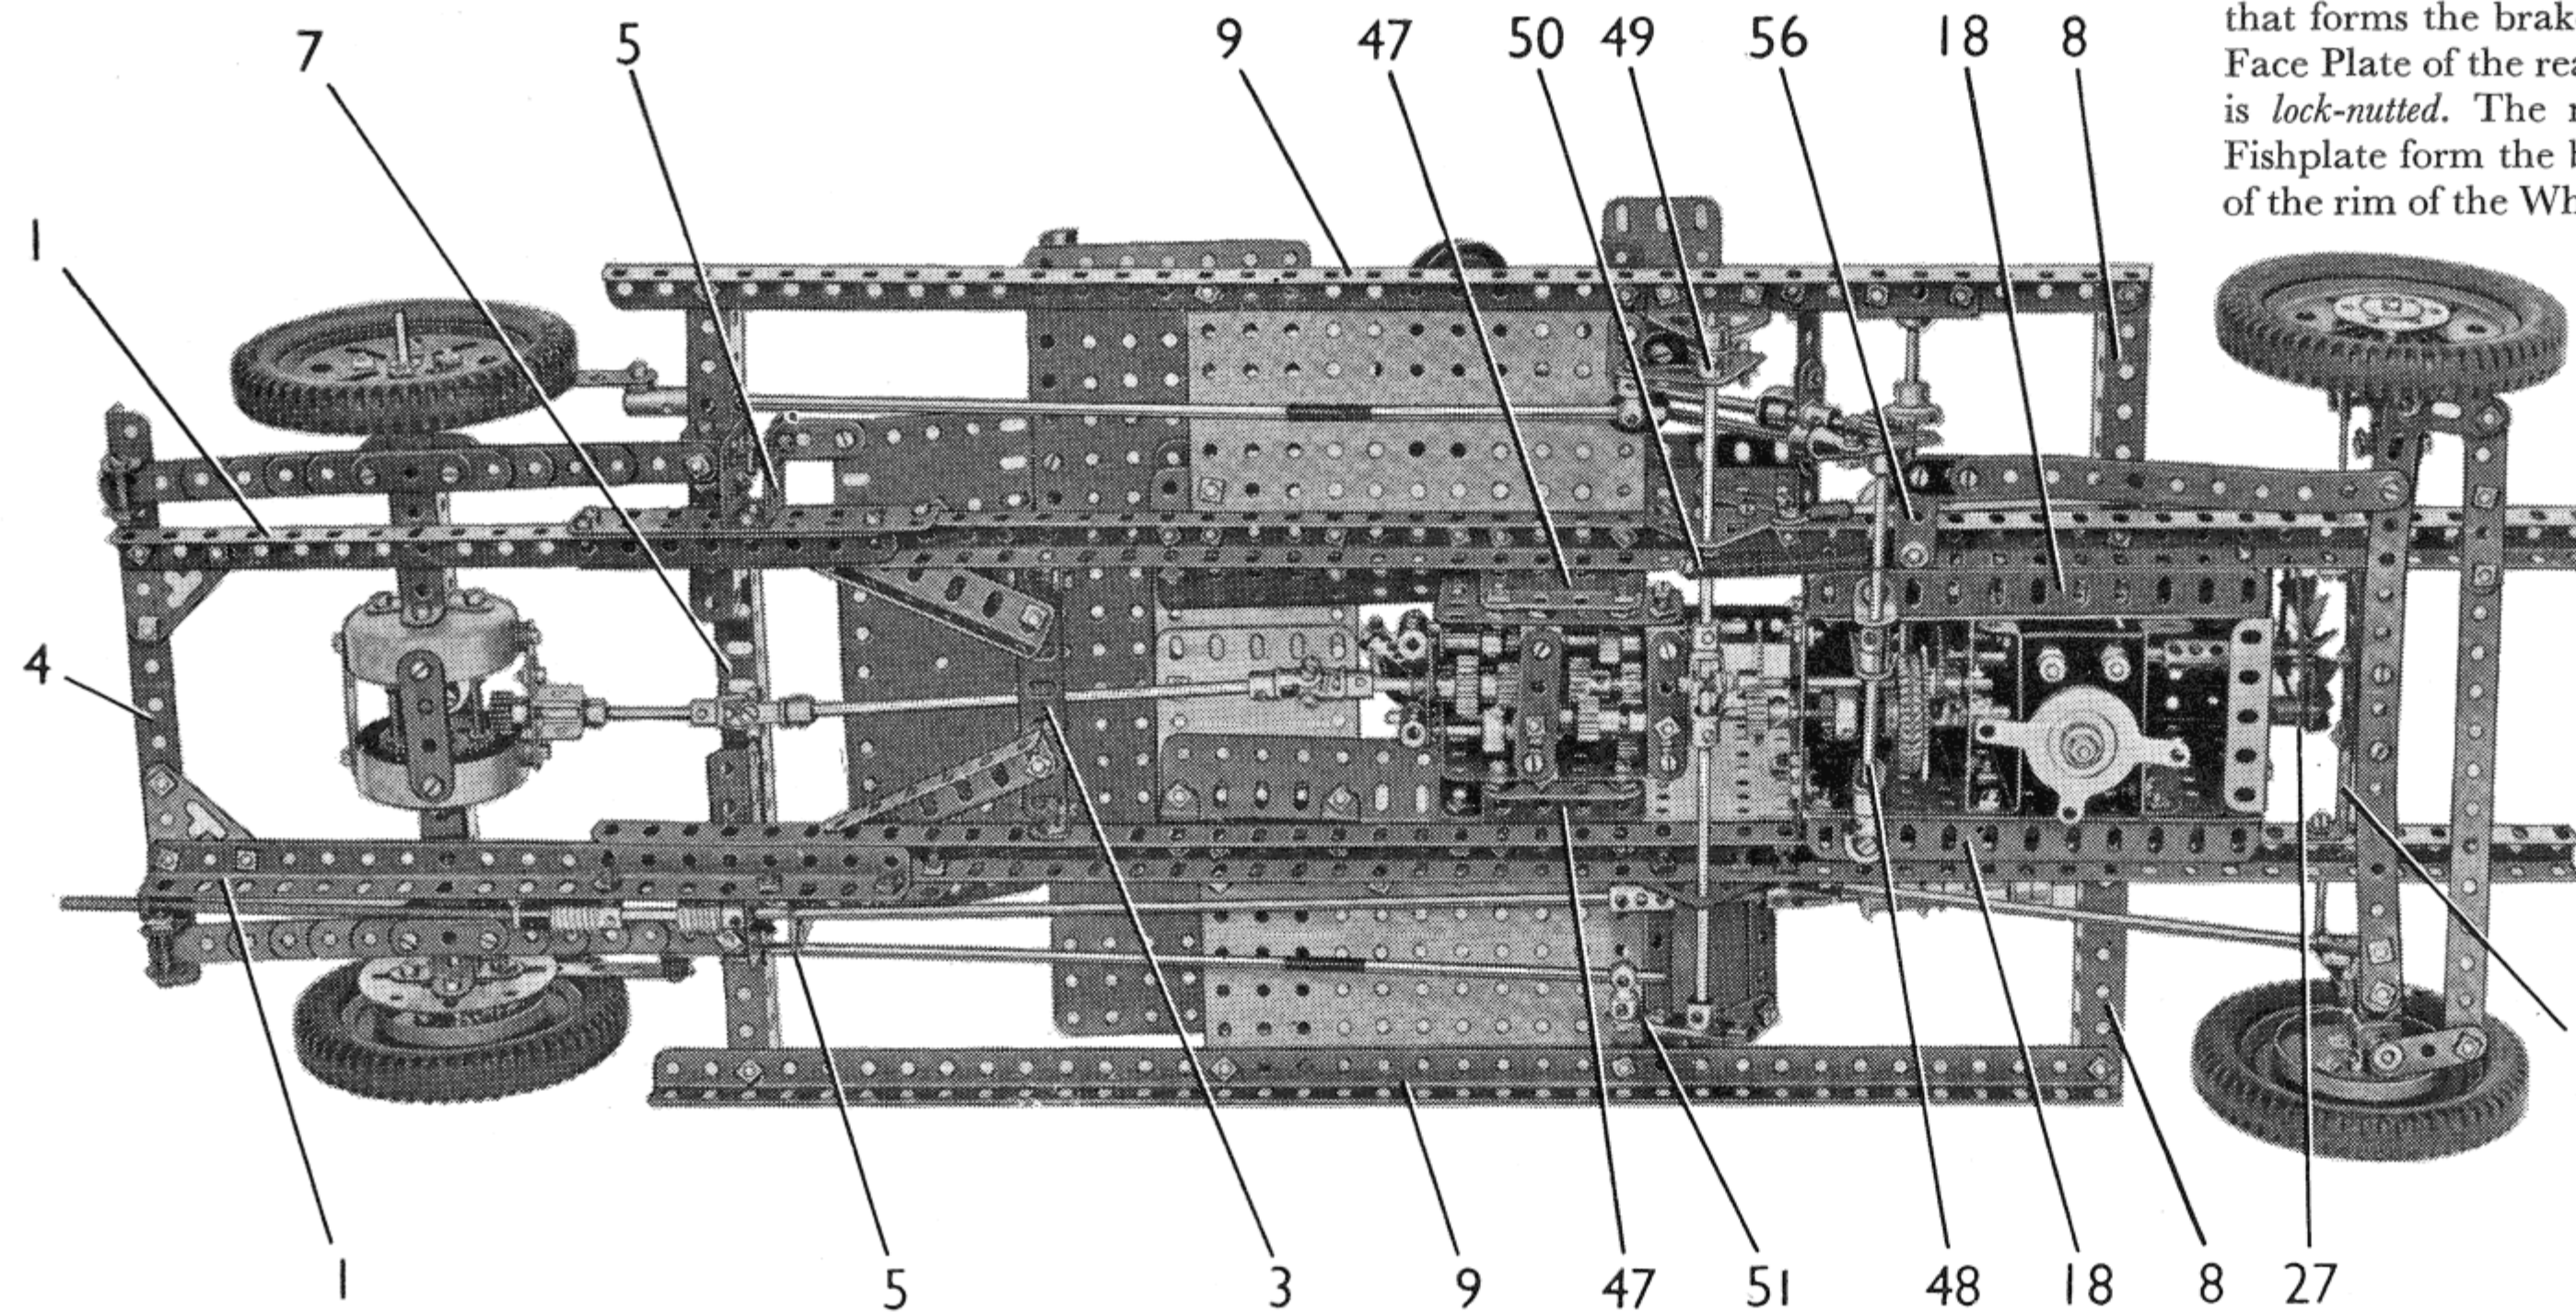
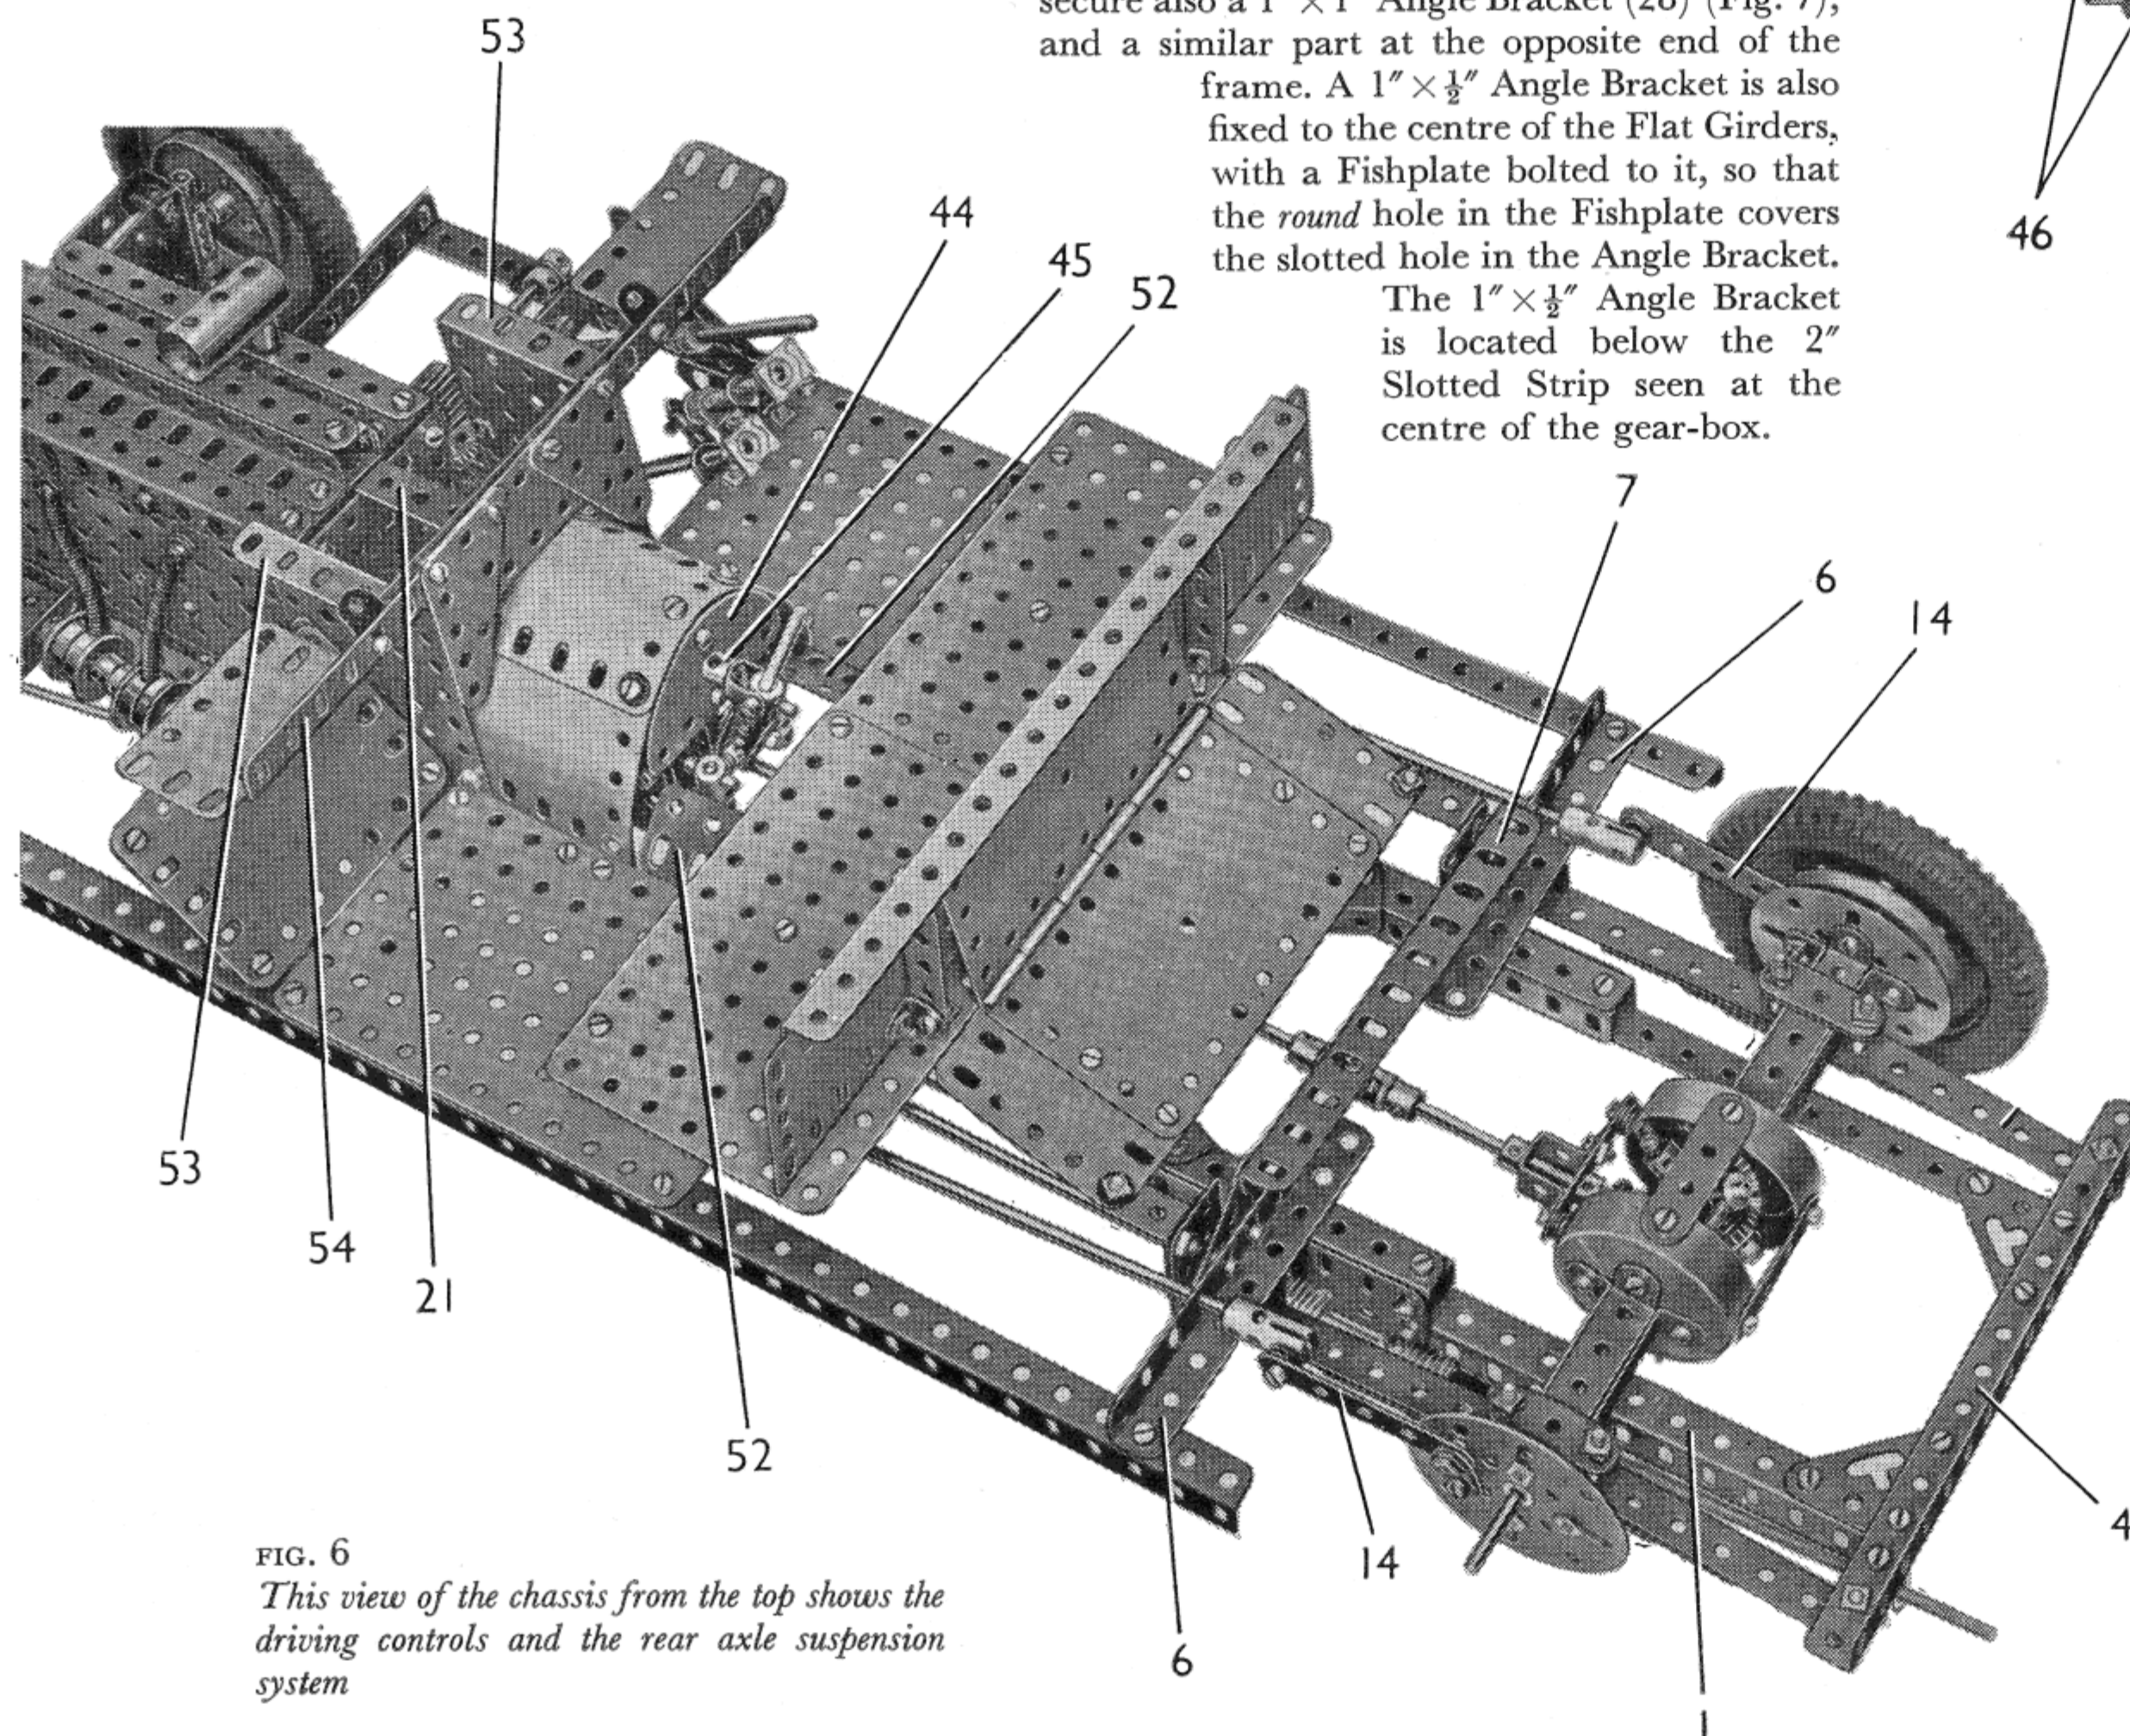

FIG. 2
FIG. 6
Construction of the Model: Details of the Chassis (Figs. 2 and 4)
A Channel Bearing (5) is bolted to each side of the chassis, and to it is fixed a $4\frac{1}{2}$ " Angle Girder (6) fitted with a $1\frac{1}{2}$ " Corner Bracket. The Corner Brackets are connected by a $5\frac{1}{2}$ " Angle Girder (7) (Fig. 6). A $3\frac{1}{2}$ " Angle Girder (8) is fixed to each side of the chassis, and $18\frac{1}{2}$ " Angle Girders (9) are bolted to the ends of the Girders (6) and (8). A $5\frac{1}{2} \times 3\frac{1}{2}$ " Flat Plate is bolted between the chassis member and the Girder (9) on each side (see Fig. 2).
The rear wheels are 3" Pulleys, to each of which a Wheel Flange that forms the brake drum is bolted. A Fishplate is lock-nutted to each Face Plate of the rear axle, and to the Fishplate a $2\frac{1}{2}$ " Strip (14) (Fig. 6) is lock-nutted. The nuts on the bolt that connects the Strip and the Fishplate form the brake shoe, and can be pulled against the inner side of the rim of the Wheel Flange by means of the Strip (14).
Each of the rear springs is formed by a $7\frac{1}{2}$ ", a $5\frac{1}{2}$ ", a $4\frac{1}{2}$ ", a $3\frac{1}{2}$ ", a $2\frac{1}{2}$ " and a $1\frac{1}{2}$ " Strip connected by two $1\frac{1}{8}$ " Bolts. The Bolts pass on each side of the axle casing, through three $1\frac{1}{2}$ " Strips placed face to face. Nuts on the Bolts clamp the $1\frac{1}{2}$ " Strips and the axle casing securely to the spring (see Fig. 6).
are bolted flanges upward, and to one of them a $5\frac{1}{2}$ " Strip is attached by Angle Brackets. A $4\frac{1}{2}$ " \times $\frac{1}{2}$ " Double Angle Strip (21) (Fig. 6) is fixed to the rear of the unit, and a $2\frac{1}{2}$ " \times $1\frac{1}{2}$ " Flanged Plate (22) is bolted between the sides.
The sparking plugs are $\frac{3}{8}$ " Bolts, that are connected to a Chimney Adaptor by four lengths of Spring Cord. The exhaust pipe consists of two Springs bolted to the housing and clamped at their lower ends between $\frac{3}{4}$ " Flanged Wheels on a $3\frac{1}{2}$ " Screwed Rod. One end of the Screwed Rod is fixed in one of the Girders (8) (Fig. 2), and to the other a Flexible Coupling Unit is attached by a Threaded Coupling. The Flexible Coupling Unit is joined by a Coupling to an $11\frac{1}{2}$ " Rod that passes through one of the Channel Bearings (5). This Rod carries two Worms, in one of which is held an Adaptor for Screwed Rods that supports a 6" Screwed Rod. The rear end of the Screwed Rod is fixed in an Angle Bracket bolted to the Girder 4.
A $1" \times 1"$ Angle Bracket is bolted to the top at the rear end of the gear-box frame, and a Threaded Pin is passed through this Angle Bracket and through a Semi-Circular Plate (44) (Fig. 6). A Swivel Bearing (45) is fixed on the Threaded Pin, and in it is held a $2\frac{1}{2}"$ Rod that forms the gear lever. A Coupling, to which two Fishplates (46) are attached by bolts, is fixed to the lower end of the $2\frac{1}{2}"$ Rod. The Fishplates are arranged one on each side of bolts screwed into the Couplings (43). The movement of each selector shaft is restrained by a $\frac{3}{8}"$ Bolt held in the top of the gear-box frame by two nuts. The shank of this Bolt presses lightly against the selector shaft.
The gear-box is connected by $\frac{3}{8}"$ Bolts to Girder Brackets (47) bolted to the chassis (Fig. 2). The sides of the gear-box are spaced from the Girder Brackets by a nut on each bolt. A 57-tooth Gear on the input shaft is driven by a $\frac{1}{2}"$ Pinion on the Rod (25), and the drive to the rear axle is carried by a $6\frac{1}{2}"$ Rod and two Universal Couplings.
Clutch and Brake Mechanisms (Figs. 2, 5 and 8)
The brake pedal is a Slide Piece on a 2" Rod, which is mounted in an Obtuse Angle Bracket bolted to a $1"$ Triangular Plate fixed to the $5\frac{1}{2}" \times 3\frac{1}{2}"$ Flat Plate. Two Compression Springs are placed on the Rod between the Slide Piece and the Obtuse Angle Bracket. An End Bearing on the lower end of the 2" Rod is lock-nutted to a Bell Crank (49) (Fig. 2) on a built-up axle. This axle consists of two $4\frac{1}{2}"$ Rods, each of which carries a small Fork Piece, and the Fork Pieces are bolted together by their lugs. The axle is supported in Flat Trunnions bolted to the chassis, and in a $1\frac{1}{2}"$ Strip fixed to a Trunnion attached to one of the Girders (9). The axle is held
in place by a Collar, and in addition to the Bell Crank (49) it carries half of a Dog Clutch (50) and a 2" Strip (51) bolted to a Double Arm Crank. Handrail Couplings are pivoted on bolts passed through the Bell Crank and the Strip (51), and each Handrail Coupling is connected by a built-up rod to a Strip Coupling that pivots on a bolt in one of the Strips (14) (Fig. 6). The built-up rods are each made from a 4" and an 8" Rod joined by a Rod Connector. A Spring is attached by a bolt to the half of the Dog Clutch (50) and is looped over the clutch shaft (48).
Gear-Box Cover, Dashboard and Front Seat (Fig. 6)
A Hinged Flat Plate is bolted behind the front seat, and its horizontal half is extended on each side by a $2\frac{1}{2}" \times 1\frac{1}{2}"$ Flexible Plate. These plates are connected to the Channel Bearings (5) (Fig. 2) by $1" \times 1"$ Angle Brackets.
The steering column is a $6\frac{1}{2}"$ Rod that is supported in an Angle Bracket bolted to Girder (54) (Fig. 6) and in a Double Bent Strip and a Double Arm Crank fixed to a $3" \times 1\frac{1}{2}"$ Double Angle Strip. The Double Angle Strip is bolted to one of the Flanged Plates (53) and to a Corner Gusset supported by a $2"$ Angle Girder fixed to one of the Girders (9).